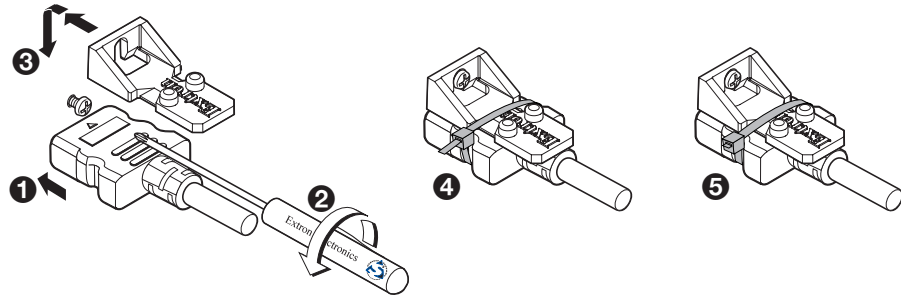

Figure 5. Installing the HDMI LockIt Lacing Bracket
1. Plug the HDMI cable into the rear panel connection (see figure 5, **1**).
3. Place the LockIt Lacing Bracket on the screw and against the HDMI connector (see figure 5, **3** on the previous page), then tighten the screw to secure the bracket.